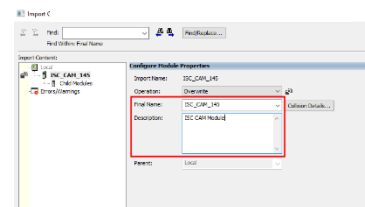

Figure 29: Import Configuration – GED_ISC_CAM_v2.L5K
12. An “Import Configuration – GED_ISC_CAM_v2.L5K” window will open. Update the name and description for the project if you would like it to be something other than the default, then click “OK,” Figure 29.